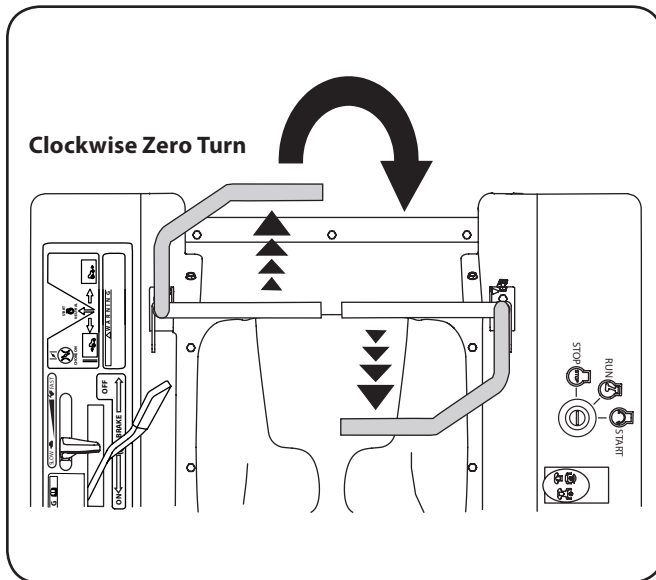

Figure 5-8
2. To turn clockwise, move the left control lever forward while simultaneously moving the right control lever rearward. See Figure 5-8.